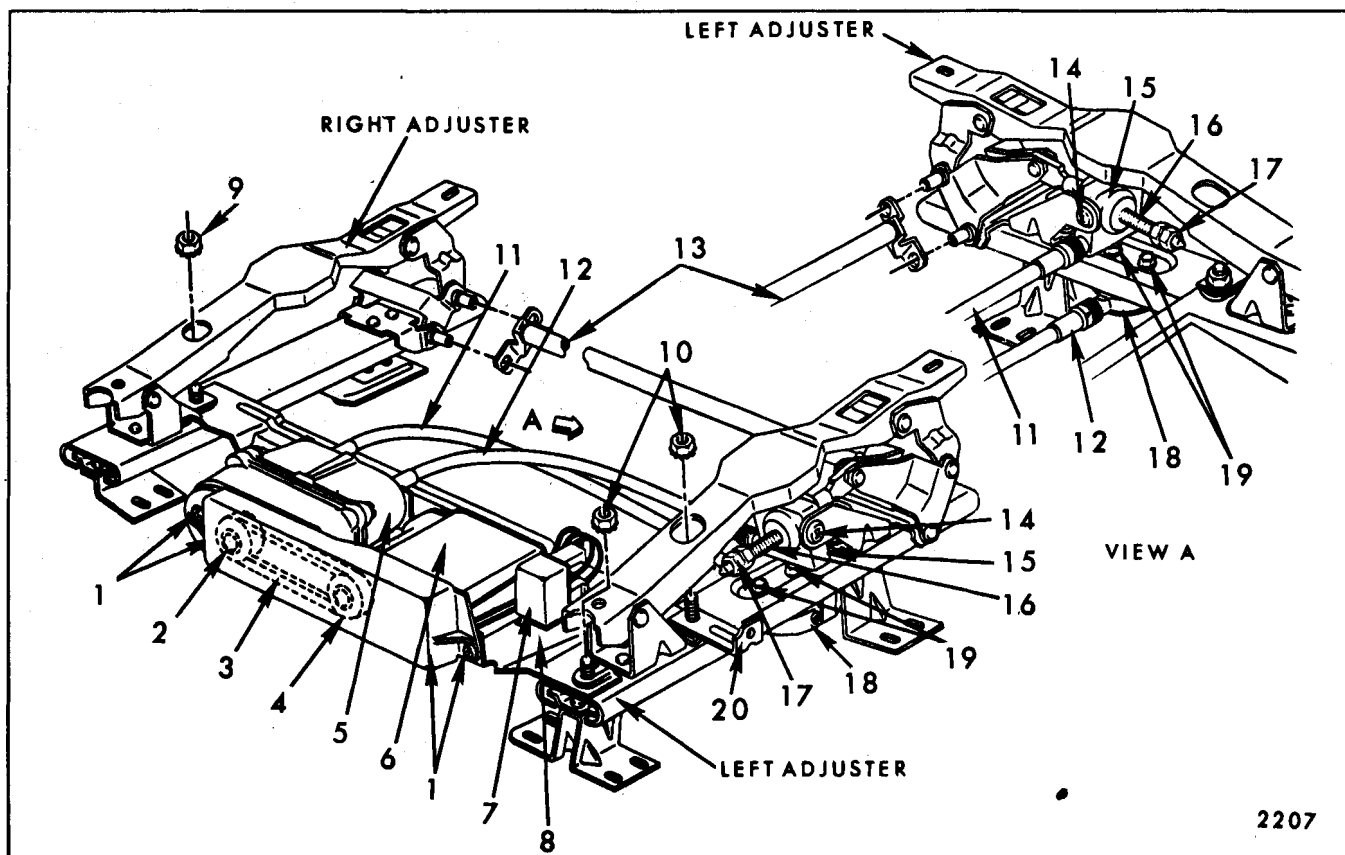

Fig. 14-42-Power Operated Four-Way Bucket Seat Adjusters
drive belt cover attaching screws and remove cover (Fig. 14-42).
- Remove drive belt from both motor and transmission drive pulleys. Pulleys may be removed from either motor or transmission by pulling off their respective shafts (Fig. 14-42).
3. Remove motor and transmission drive belt cover and remove drive belt (Fig. 14-42).
3. Using a clutch type screwdriver or other suitable tool, remove shoulder screws securing linkage to vertical gearnut (Fig. 14-42).
4. Remove jackscrew "down" stop from jackscrew (Fig. 14-42).
3. As a bench operation, remove jackscrew-to-adjuster linkage attaching rivet and remove jackscrew from adjuster assembly (Fig. 14-42).
2. Using a clutch type screwdriver or other suitable tool, remove shoulder screws securing linkage to vertical gearnut (Fig. 14-42).
5. Remove screws securing horizontal actuator assembly to adjuster lower track; then, remove actuator from adjuster assembly (Fig. 14-42).
2. Disengage torque tube from outboard adjuster and remove torque tube assembly (Fig. 14-42).